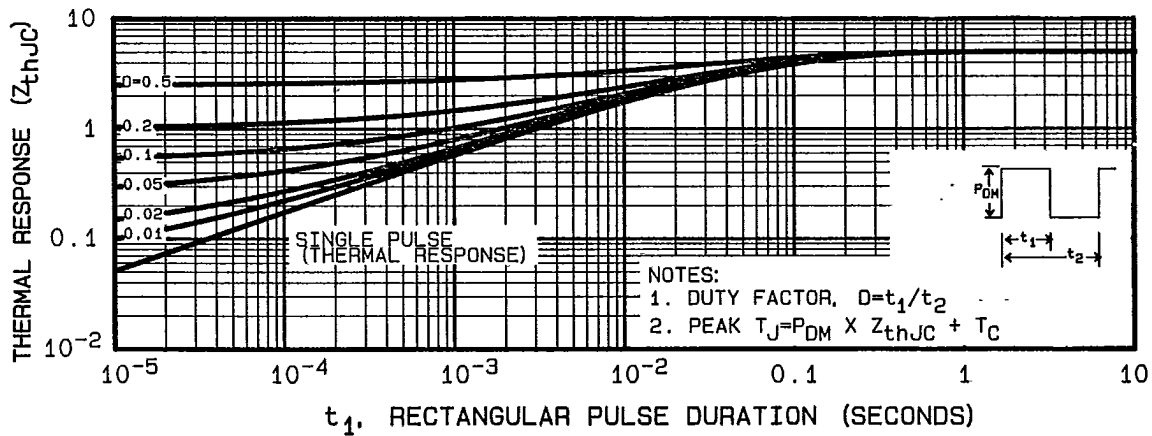

Fig. 5 — Maximum Effective Transient Thermal Impedance, Junction-to-Case Vs. Pulse Duration
- ① Repetitive Rating; Pulse width limited by maximum junction temperature (see figure 5)
- ② @ $V_{DD} = -25\text{V}$, Starting $T_J = 25^\circ\text{C}$, $L = 9.7\text{ mH}$, $R_G = 25\Omega$, Peak $I_L = -5.3\text{A}$
- ③ $I_{SD} \leq -5.3\text{A}$, $di/dt \leq -80\text{ A}/\mu\text{s}$, $V_{DD} 40\text{V}$, $T_J \leq 150^\circ\text{C}$, Suggested $R_G = 24\Omega$
- ④ Pulse width $\leq 300\ \mu\text{s}$; Duty Cycle $\leq 2\%$
- ⑤ $\text{K/W} = \text{C/W}$, $\text{W/K} = \text{W}/^\circ\text{C}$
- ⑥ Mounting pad must cover heatsink surface area. See case style drawing on front page